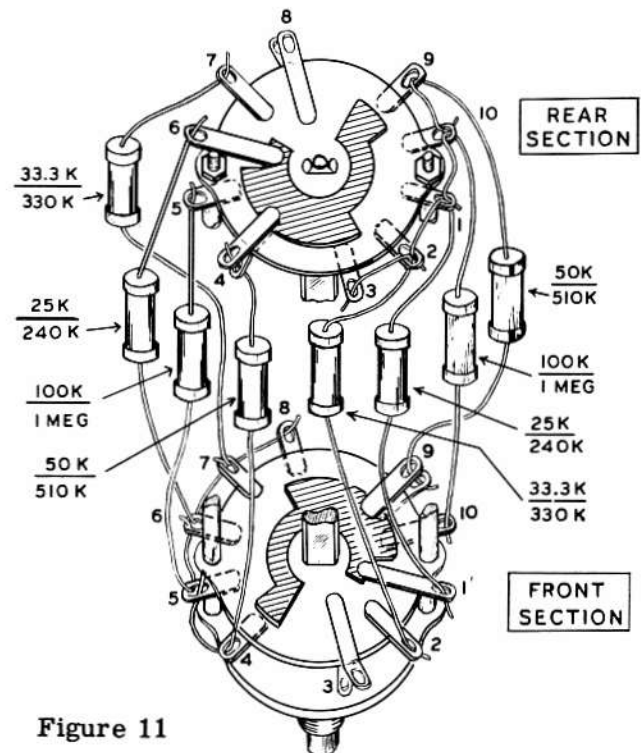

Figure 11
- () Locate switch #63-108 and position it as shown in Figure 11.
- () Connect a 50 K Ω precision resistor between lug 9 (S) (double clip) on the front section and through lug 9 (S) to lug 10 (NS) on the rear section.
- () Connect a 100 K Ω precision resistor between lug 10 (S) on the front section, through lug 10 (S) (2) to lug 1 (NS) on the rear section.
- () Connect a 25 K Ω precision resistor between lug 1 (S) on the front section, through lug 1 (S) (2) to lug 2 (NS) on the rear section.
- () Connect a 33.3 K Ω precision resistor between lug 2 (S) on the front section, through lug 2 (S) (2) to lug 3 (NS) on the rear section.
- () Connect a 50 K Ω precision resistor between lug 4 (S) (double clip) on the rear section, through lug 4 (S) to lug 5 (NS) on the front section.